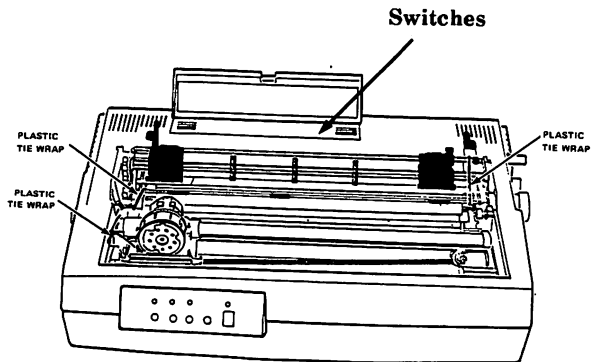

Figure 3-14. Location of operating switches
- You will find a panel behind the carriage assembly. Lift up on this panel to locate the operating switches. See Fig. 3-14.